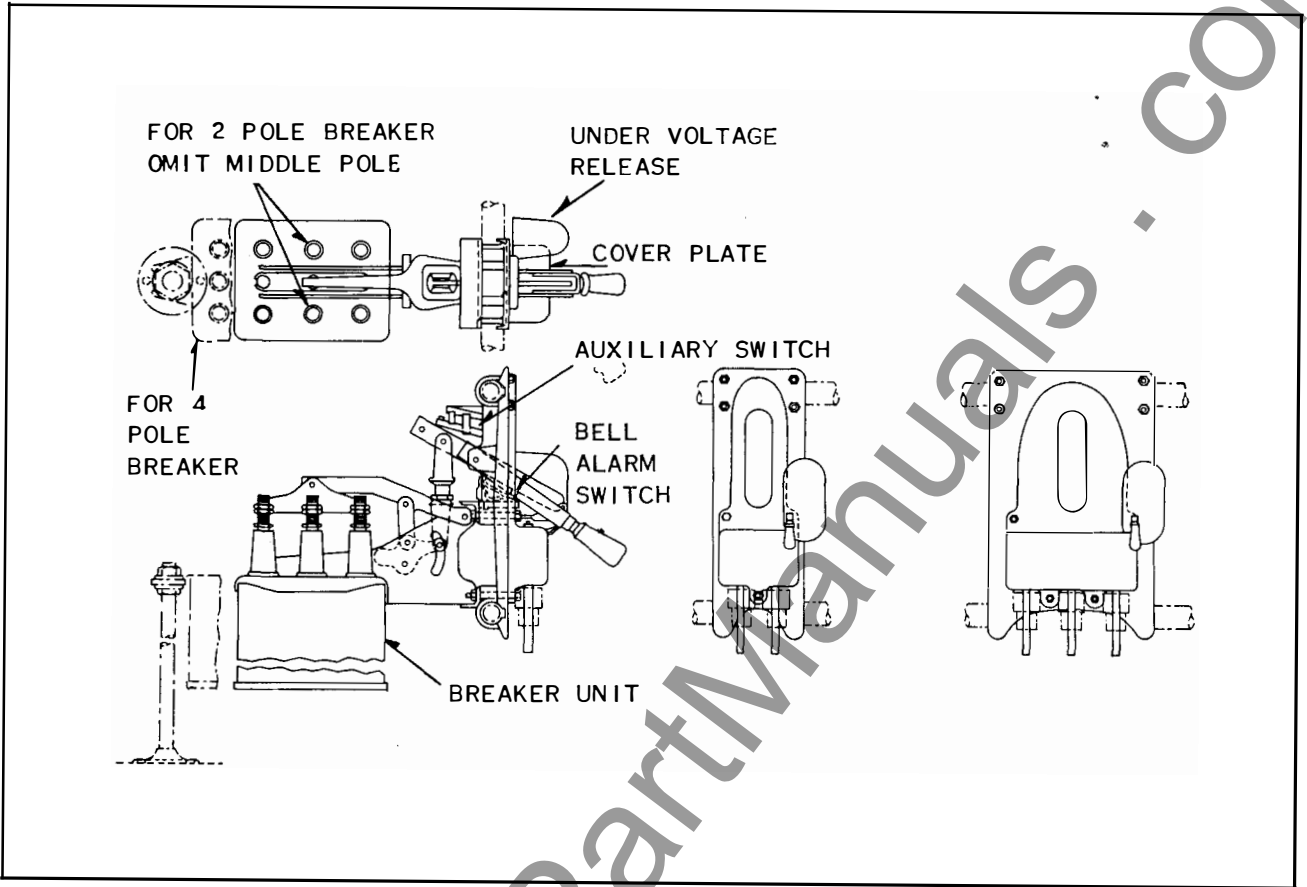

FIG. 9. Pipe Frame Mounting Assembly
**6.** If breaker unit and coverplate are to be mounted on a pipe mounting bracket as in Fig. 9 proceed as per 3-4-5 above, the pipe bracket is just a cast iron switchboard to be supported on pipes.